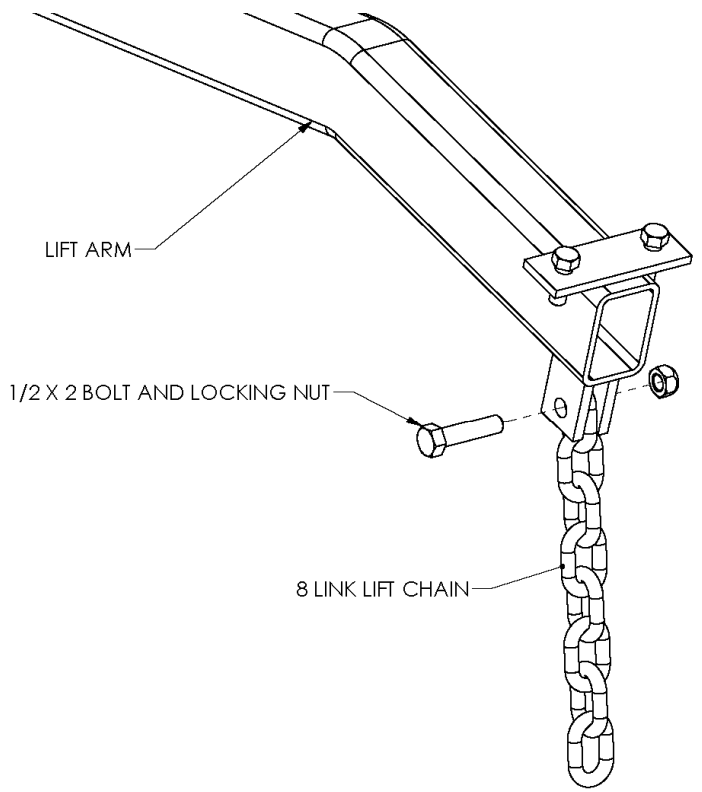

Figure 15
4. Bolt an 8-link lift chain between the chain tabs at the rear end of each lift arm. Refer to Figure 15. This chain will go down and connect to the last bar of a 4 or 8-bar harrow section or to the connector link for 16-bar sections.